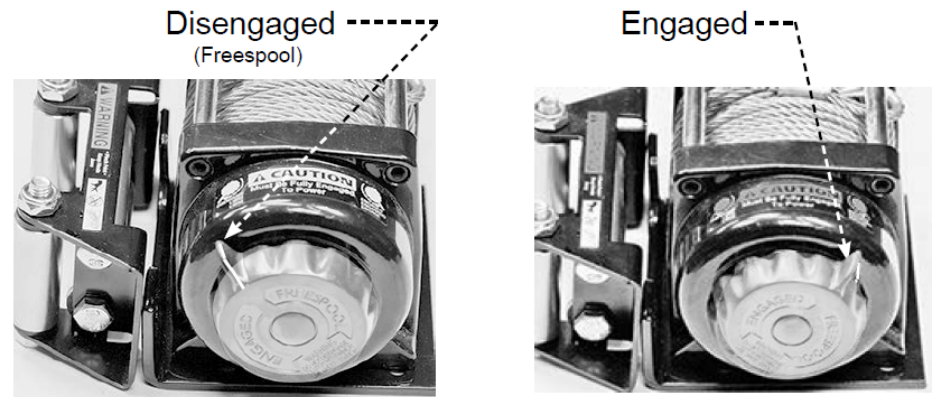

Figure 10
Turn the clutch knob to, Disengaged "Free" position as shown in Figure 10. Pull several feet of wire rope off the drum. Return the clutch knob back to the, "Engaged" position. Activate the
Turn the clutch knob to the, Disengaged "Free" position as shown in Figure 10. If there is a load on the wire rope, the clutch knob may not pull out easily. **DO NOT FORCE THE CLUTCH KNOB.** Release tension on the clutch by jogging out some of the wire rope.
Release the clutch and pull out the wire rope and secure to anchor or load. Check that there are at least five (5) turns of wire rope left on the drum. Re-engage the drum by returning the clutch knob to the, "Engaged" position. See Figure 10 .